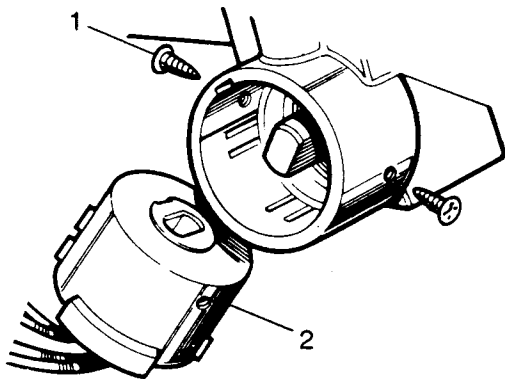

Fig D4.4
- (4) Refer to Fig D4.4. Remove the screws (1) locating the switch in the housing and withdraw the switch (2).